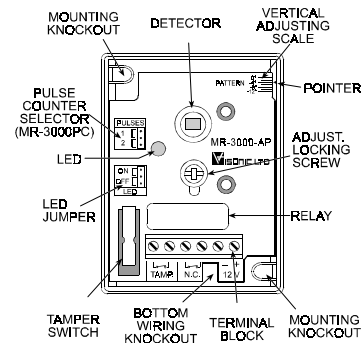

Figure 8. Printed Circuit Board.
the base (Fig. 8)
A. Loosen the adjustment locking screw slightly and slide the P.C. board upward, in order to expose the wiring knockout (Fig. 8)
The LED selector consists of a 2-pin connector and a jumper, enabling 2 operational modes (Fig. 8).
To change the vertical pattern adjustment, loosen the screw which fastens the printed circuit to the base (Fig 8). Slide the p.c. board up or down to the desired angle and tighten the screw firmly.